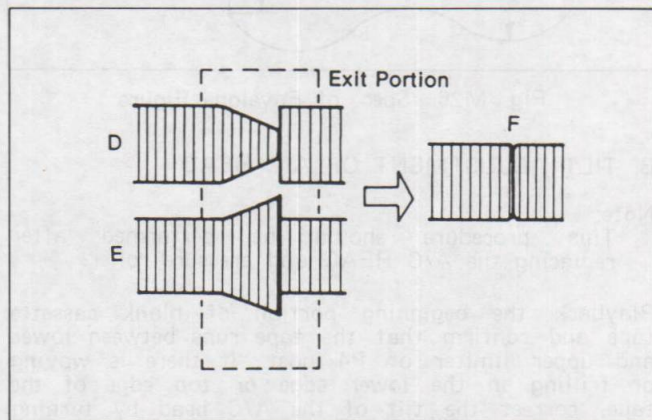

Fig. M23
5. If the RF envelope appears like example "D" or "E" in Fig. M23, then adjustment of the tape guide post (P3:Exit) is necessary.
6. Adjust the tape guide post (P3) in the same manner as the P2 post so that the exit portion becomes flat as shown in Fig. M23-"F".